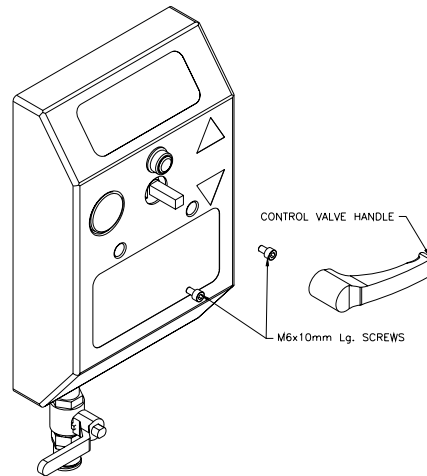

Fig. 9
23. Attach the cover to the valve body with to M6x10mm Lg. screws and control valve handle. See figure 9.